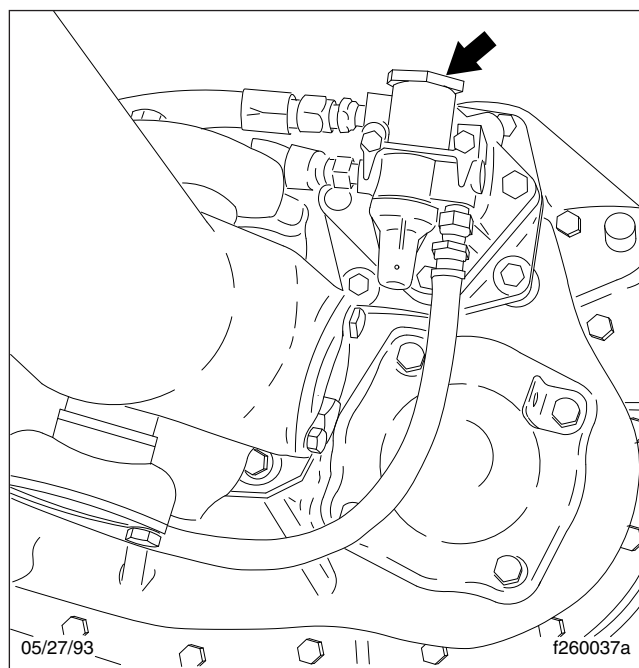

Fig. 5, Air Filter/Regulator Location (Eaton/Fuller transmission shown)
2. Clean the outside of the air filter/regulator with cleaning solvent. See Fig. 5.